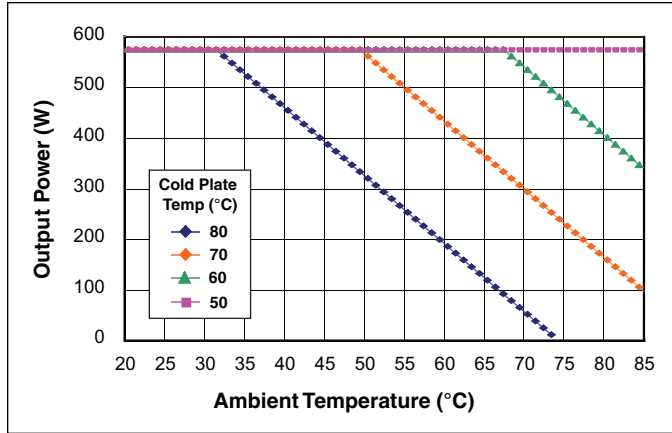

Figure 19-4 — Power de-rating conduction cooled option
**NOTE 2:** All PFC FlatPAC models are available with a conduction cooled flat plate instead of the top heat sink. Go to [vicorpower.com](http://vicorpower.com) for outline drawings. Refer to Figure 19-4 for additional deratings for the -cc variants.